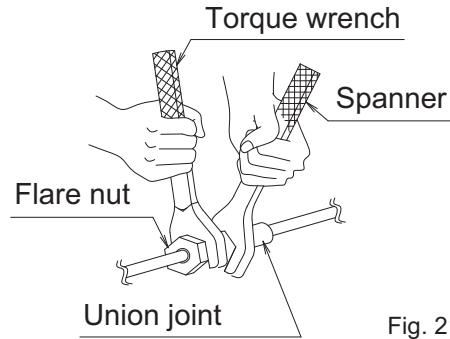

Fig. 21
- When connecting the piping to the air conditioner, make sure to use a spanner and a torque wrench as shown in **Fig. 21**.
- Before brazing refrigerant piping, have nitrogen flow through the refrigerant piping and substitute air with nitrogen (NOTE 1). **(Refer to Fig. 24)** Then, carry out brazing (NOTE 2). After all the brazing works are finished, carry out flare connection with the indoor unit. **(Refer to Fig. 21)**